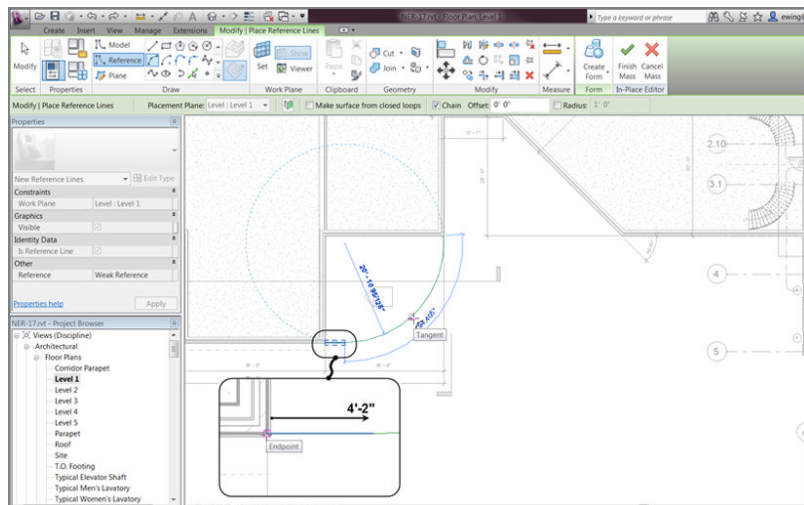

FIGURE 16.39: Creating the plan geometry
5. On the Draw panel, click the Reference Line button, as shown in Figure 16.39.
10. Move your cursor to the right until the arc snaps to the tangency, and then pick the third point (see Figure 16.39).